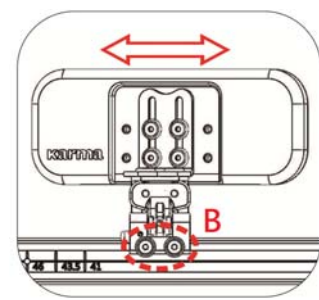

Figure 5-133
5.3.11.3 Use the #4 Allen Key Wrench to loosen the screws B. The hip support can be moved forwards or backwards. (Figure 5-133)